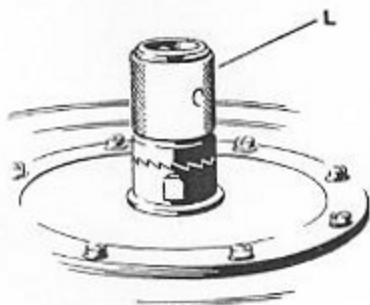

Figure 49
8. When the magazine has been correctly filled to capacity (60 rounds), the coupling sleeve must be revolved by hand until it drops into engagement with the ratchet teeth as shown in Figure 49.